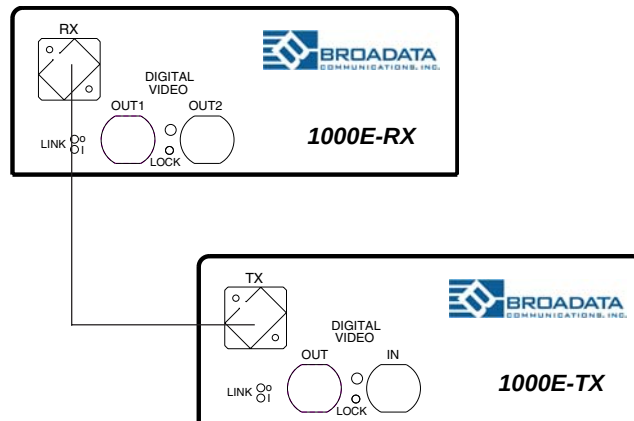

Figure 2-3
3. Cross-connect the fibers from one unit to the other connecting the near end 1000E unit's optical TX port to the far end 1000E unit's optical RX port as illustrated in Figure 2-3. Observe the type of connector you have and connect the optical connector by following the instructions and guidelines provided in Table 1.